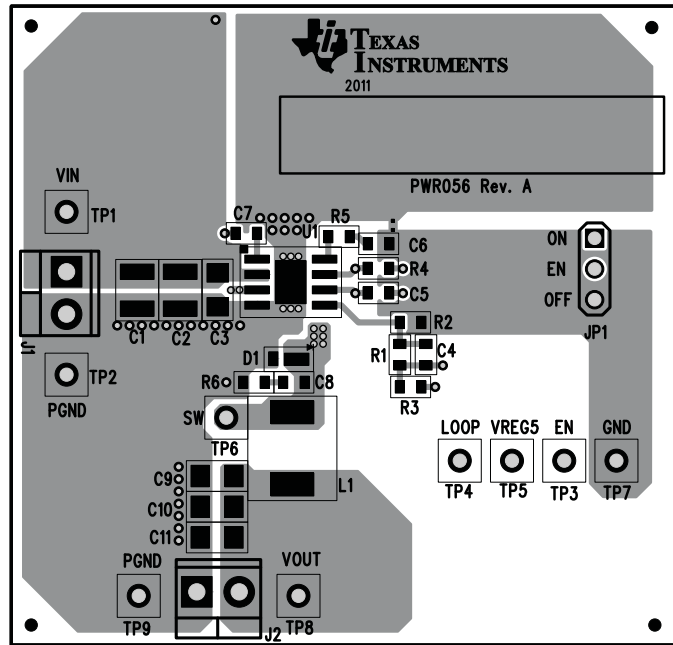
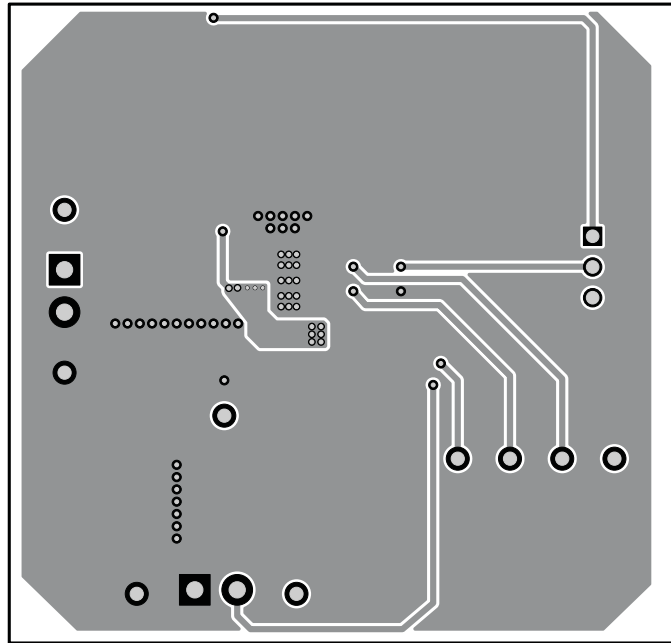

Figure 15. Top Assembly
Figure 19. Bottom Layer
The board layout for the TPS54339EEVM-056 is shown in Figure 15 through Figure 19. The top layer contains the main power traces for VIN, VO, and ground. Also on the top layer are connections for the pins of the TPS54339E and a large area filled with ground. Many of the signal traces also are located on the top side. The input decoupling capacitors are located as close to the IC as possible. The input and output connectors, test points, and all of the components are located on the top side. An analog ground (GND) area is provided on the top side. Analog ground (GND) and power ground (PGND) are connected at a single point on the top layer near C6. The two internal layers are completely dedicated to power ground planes. The bottom layer is primarily power ground. A copper pour area on the bottom layer is used to connect the switching node (SW) to the output inductor and the boost capacitor. Traces also connect enable control jumper, EN, VREG5, and LOOP test points, and the feedback trace from VOUT to the voltage setpoint divider network.